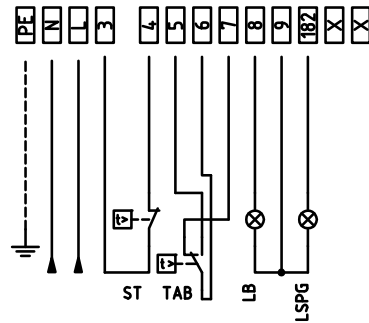

Fig. 22
- 1 Connect the signal conductors from the boiler to the burner, as for the next elements (Fig. 22):
- 2 Connect the signal conductors from the burner to the boiler, as for the next elements (Fig. 22)